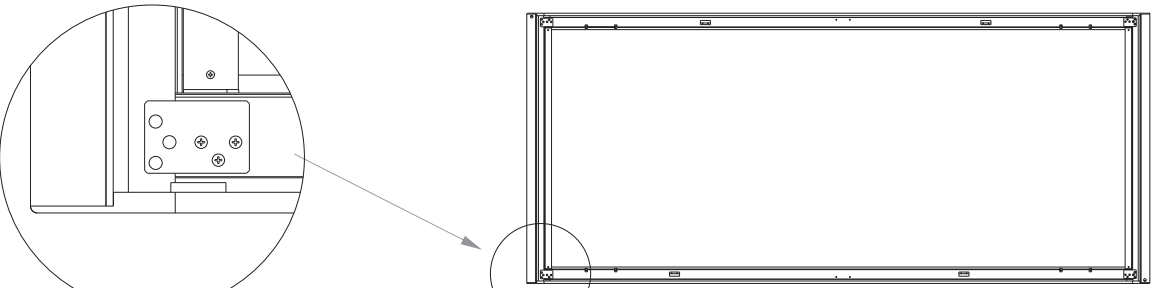

figure 3
3.The installation of right bar is the same as left bar. The installation has been completed (figure 3).